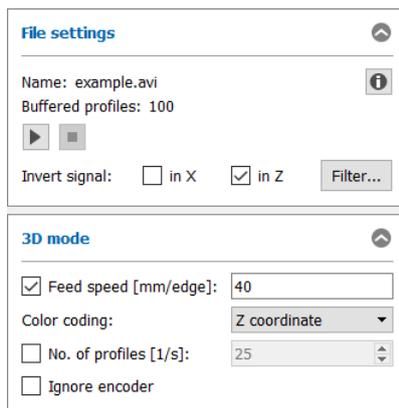

Fig. 3.10: Settings in offline mode
- Press the "Info" button in the "File settings" box (see Fig. 3.10). You then access the "Sensor settings offline" dialog box.